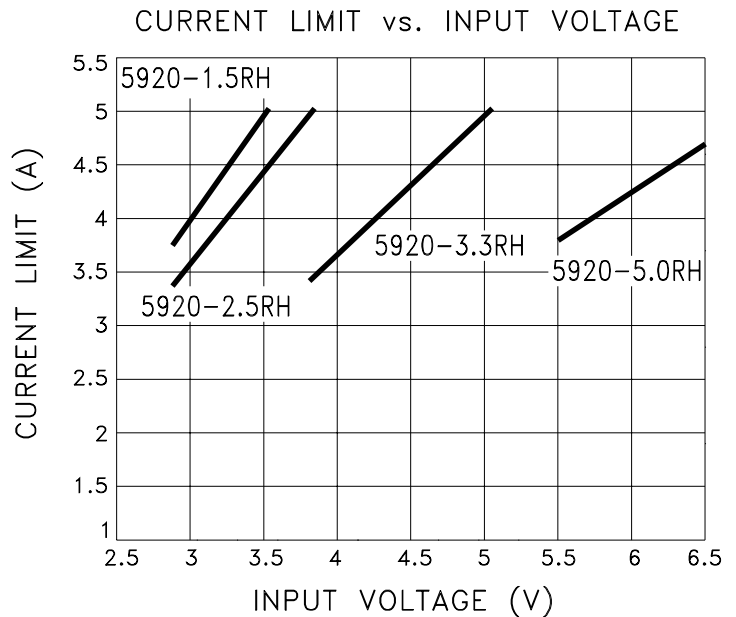

FIGURE 1
- ⑦ Output current limit is dependent upon the values of V_{IN} and V_{OUT}. See Figure 1 and typical performance curves.
- ⑧ Continuous operation at or above absolute maximum ratings may adversely effect the device performance and/or life cycle.
- ⑨ V_{IN} shall be as specified or V_{IN} min., whichever is greater.
- ⑩ Not applicable to versions where V_{IN} = V_{IN} Min.
- ⑪ Pre and post irradiation limits at 25°C, up to 100Krad TID, are identical unless otherwise specified.
- ⑫ Reference DSCC SMD 5962R05220 for electrical specifications for devices purchased as such.
The MSK 5920RH current limit function is directly affected by the input and output voltages. Figure 1 illustrates the relationship between V_{IN} and I_{CL} for various output voltages. It is very important for the user to consult the SOA curve when using input voltages which result in current limit conditions beyond 4.5 Amps. When using input voltages which result in current limit above 4.5 Amps, the user must maintain output current within the SOA curve to avoid damage to the device. Note that 5 Amp maximum is due to current carrying capability of the internal wirebonds.